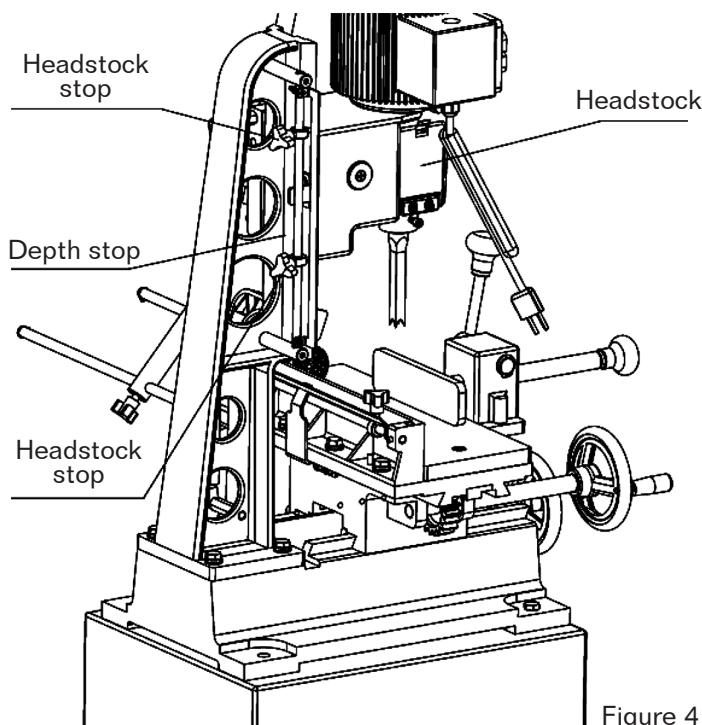

Figure 4
- Set depth stop to the required depth of cut. See Figure 4.